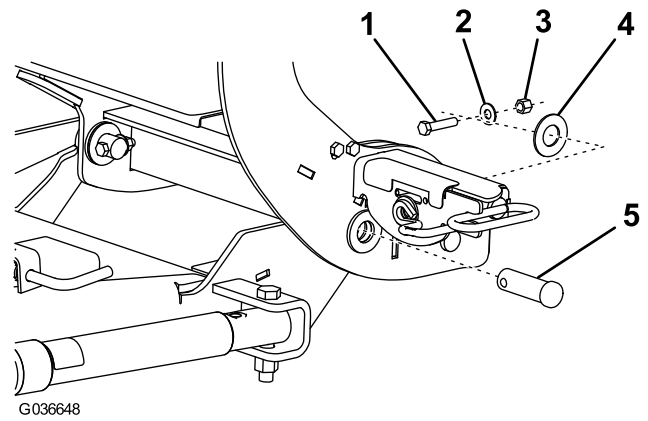

Figure 5
5. Align the pivot holes of the coupler tower with the pivot holes on the push-frame assembly, and secure them as shown in Figure 5.